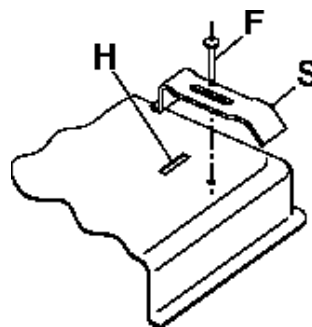

Fig. 4
- Fix the cooktop with the proper brackets "S" and fit the prominent part into the porthole "H" on the bottom; turn the screw "F" until the bracket "S" touches the top (fig. 4). In fastening the brackets, do not use a mechanical or electric screwdriver. Instead, use a hand-operated screwdriver and exert only moderate force.